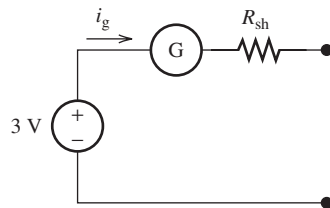

FIGURE P14.12
- 14.12** (A) Figure P14.12 shows a simple ohmmeter, made using a galvanometer. If $i_{gmax} = 2\text{ mA}$ and $R_G = 1\text{ k}\Omega$, find the value of the shunt resistor. (Hint: the maximum current occurs when the measured resistance is $0\ \Omega$.)